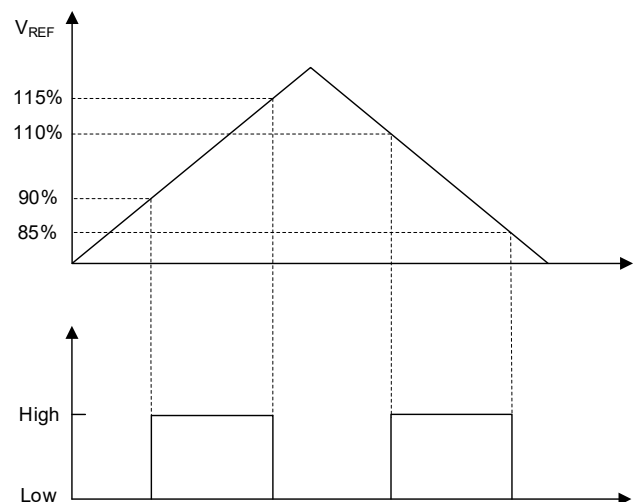

Figure 5. Power Good Flag
The SGM61264 features a power good (PG) pin to indicate whether the output voltage is at the desired level. This pin is an open-drain output that requires a resistor pulled up to a DC voltage (not exceeds 5.5V). It is recommended to use a $100k\Omega$ pull-up resistor connected to 5V. An internal 1.6mA sink current ensures a valid logic low level. As shown in Figure 5, when the FB voltage is within the 90% and 110% of the reference voltage (V_{REF}), the internal open-drain switch is turned off and the PG pin is pulled up to high. When the FB voltage is outside the power-good range, or in events of thermal shutdown, EN shutdown, UVLO conditions, the internal open-drain switch is turned on and the PG pin is pulled down to low. The PG pin can only be held low as long as V_{IN} is continuously present.